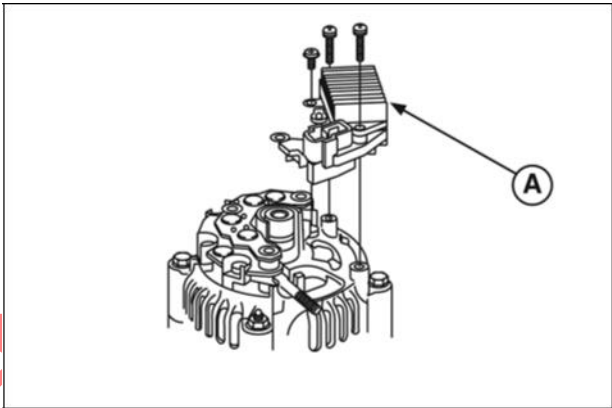

Figure 23
- 6. Remove stator lead screws from rectifier (A, Figure 23).
- 7. Carefully straighten stator leads (B) and remove rectifier.